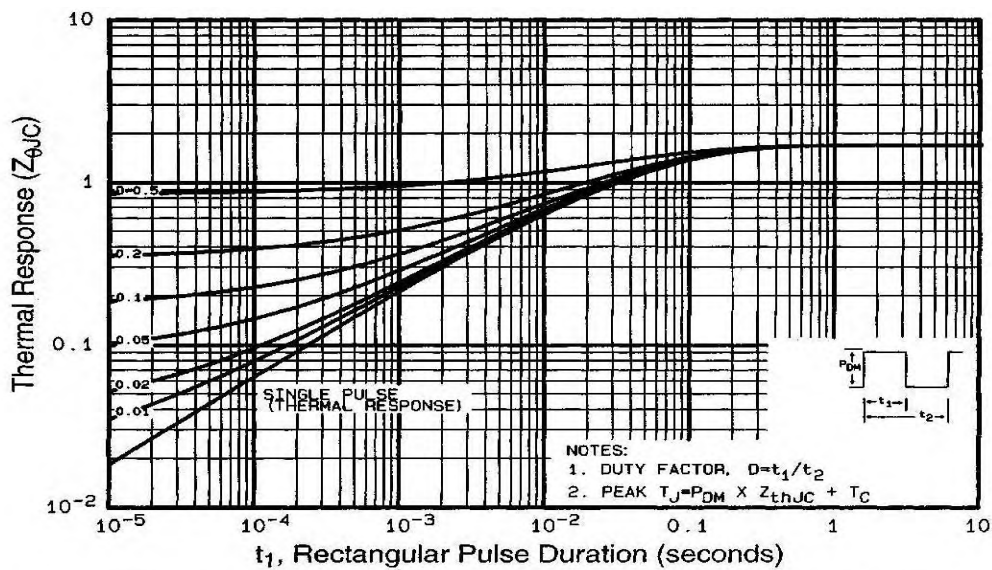

Fig 11. Maximum Effective Transient Thermal Impedance, Junction-to-Case
① Repetitive rating; pulse width limited by max. junction temperature (See Figure 11)
③ $I_{SD} \leq -12A$, $di/dt \leq 140A/\mu s$, $V_{DD} \leq V_{(BR)DSS}$, $T_J \leq 175^\circ\text{C}$